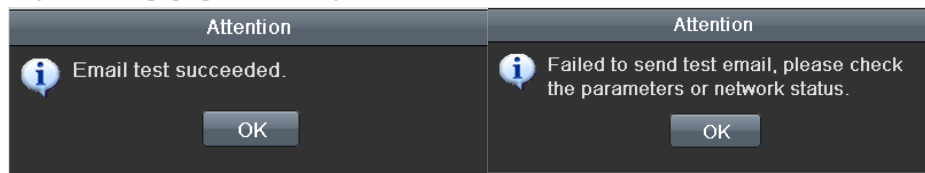

Figure 9. 23 Email Testing Attention
7. You can click **Test** to test whether your Email settings work. The corresponding Attention message box will pop up. Refer to Figure 9. 23.